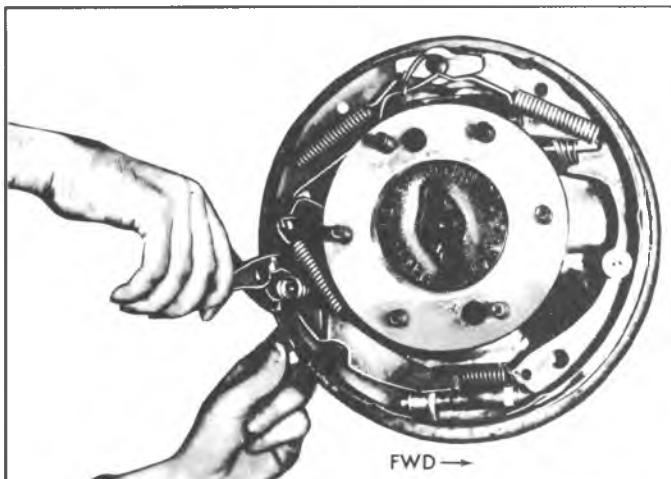

Fig. 48--Removing Hold Down Spring and Pin
7. Remove hold-down pins and springs using any suitable tool (fig. 48).